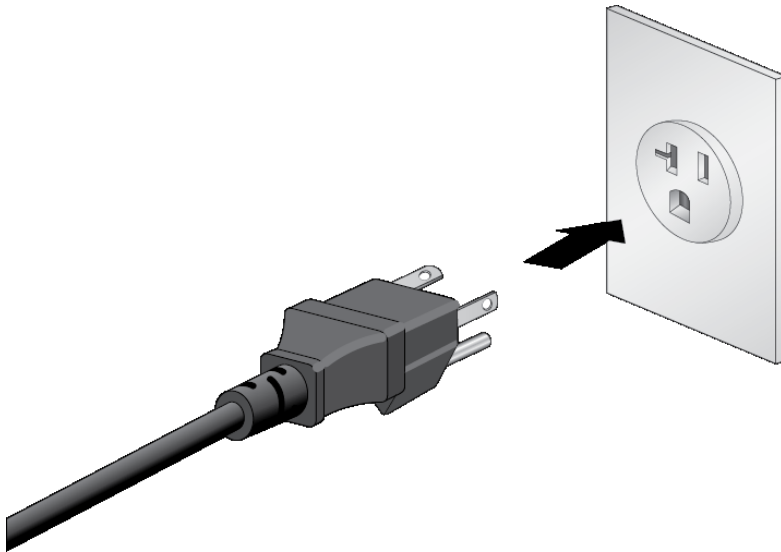

Figure 55. Connecting the Power Cord to an AC Power Source
3. Connect the power cord to an appropriate AC power source. Refer to Figure 55 on page 93.